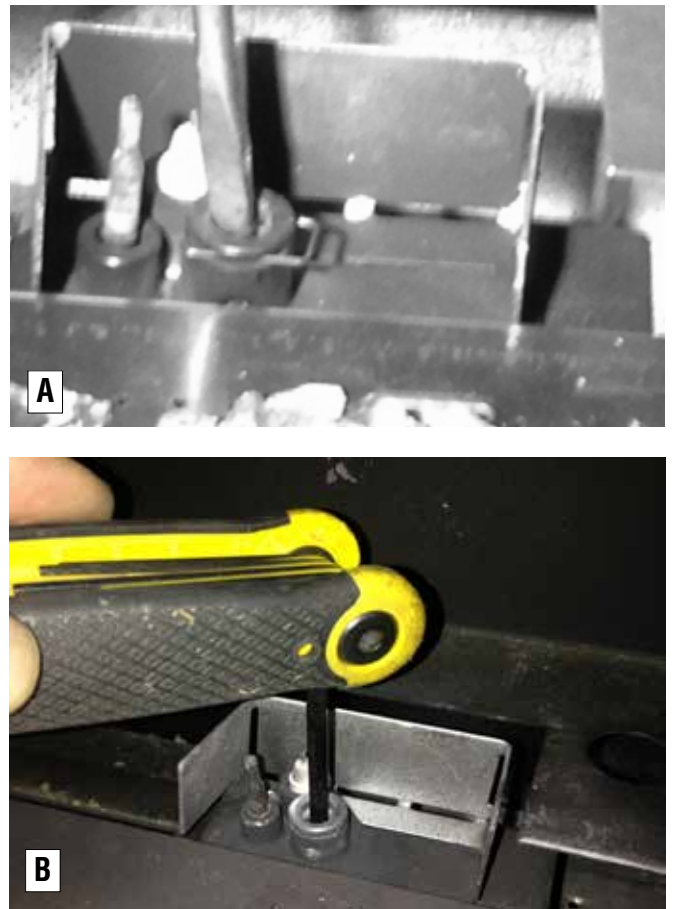

Figure 7 - Turn Pilot Orifice
Safety Gloves, Adjustable Wrench, Channel Locks, Small Flat Blade Screwdriver, Large flat blade screwdriver, 4mm Allen Wrench (*for some pilot assemblies - see Figure 7*), 5/16" Nutdriver, Pipe Joint Compound or Teflon Tape
Step 7. To adjust the pilot to Natural gas: turn the pilot orifice counter-clockwise. To adjust the pilot to Propane gas: turn the pilot orifice clockwise. See *Figure 7*.